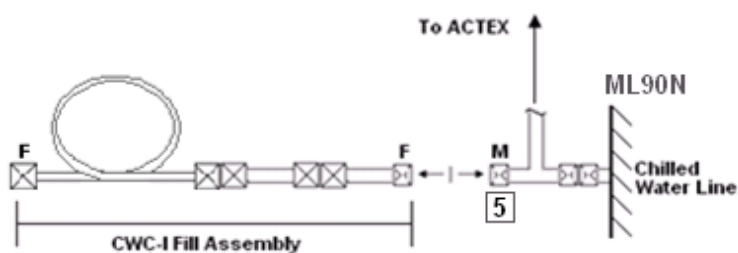

Figure 9-6.- CWC-I Fill Assembly removal.
- ML90N 1. CWC-I Fill Assembly ←|→ Chilled Water Line Tee QD (#5) (see fig 9-6)